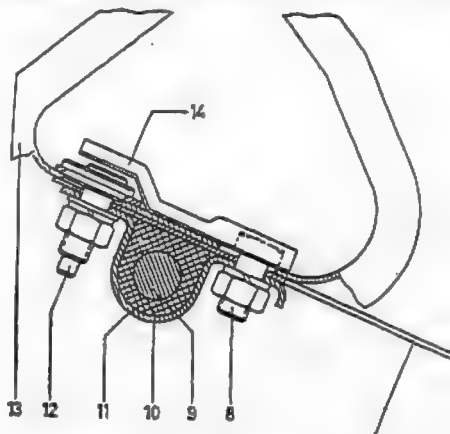

Fig. 32-6/4
3. Check the rubber mountings (10), the rubber buffers (3), and the hexagon screws (4) with the cup washers (2) and the spacer tubes (5) (Figs. 32-6/4 and 5).
4. Rub the rubber mountings (10) with talc and slide them over the torsion bar. Fix the torsion bar to the chassis base panel at the left and at the right together with the flat spring (Fig. 32-6/4). Pay attention to the positions marked during removal. For the specified tightening torque see Job No. 33-0.